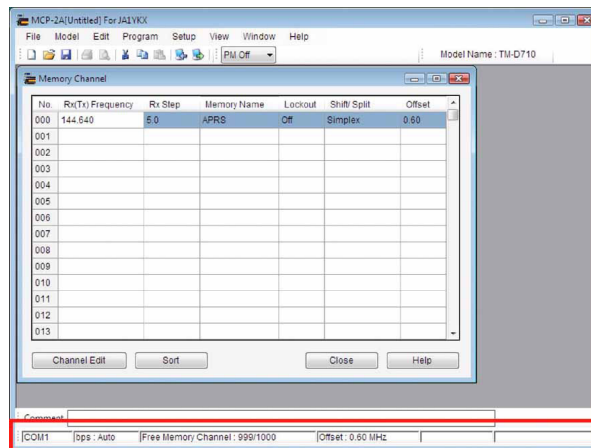

Fig. 8-8 Memory Channel Shortcut
- Double-click “Free Memory Channel: xxxx/1000” on the Status bar (see Fig. 8-8 Memory Channel Shortcut). The **Memory Channel** window will appear.
- Double-click “Offset/ Tx Freq.”, “Plus/ Minus Shift/ Split”, “T/CT/DCS” sections on the Status bar (see Fig. 8-8 Memory Channel Shortcut) to edit the channel configurations. The **Channel Edit** window will appear.
Double-click the “COM x” or “bps : xxxx” sections on the Status bar (see Fig. 8-8 Memory Channel Shortcut). The **COM Port Setting** window will appear.